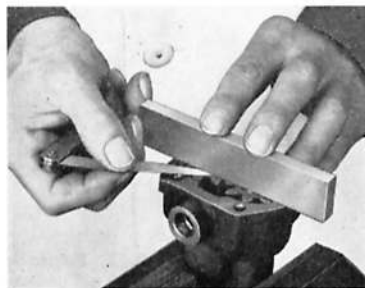

Fig. A.22. Checking oil pump impellers. From left to right—end clearance, radial clearance, and backlash
1. Check the impellers for end clearance, radial clearance and backlash (Fig. A.22).